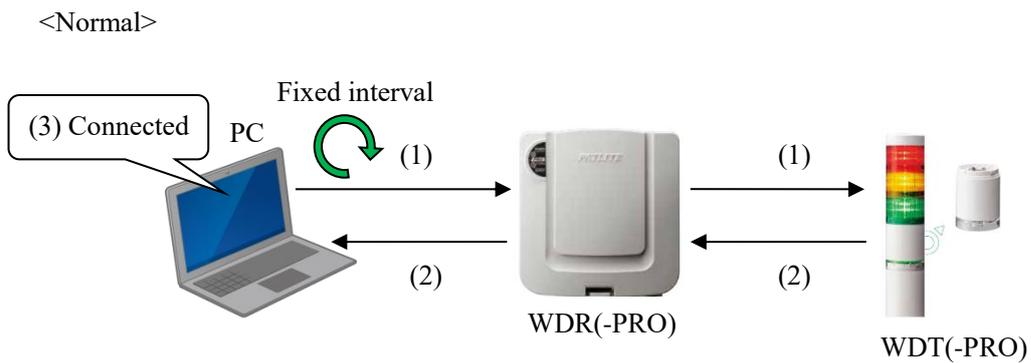

Fig. 4-5 WDR-PRO provider’s keep alive function (when normal)
If you want to detect an abnormal WDT(-PRO) condition earlier than the specified disconnected decision timing (80 seconds) described in "4.1.3 Timing of disconnected decision", use WDR-PRO provider' survival-check function. Fig. 4-5 shows WDR-PRO provider alive check function. WDR-PRO provider periodically send a WDT(-PRO) and alive check request via WDR(-PRO) to monitor whether the WDT(-PRO) is in normal status (1). When WDT(-PRO) receives a request successfully, it returns a response (-PRO)(2). When the PC receives a response, it determines that the WDT (-PRO) is connected (2).